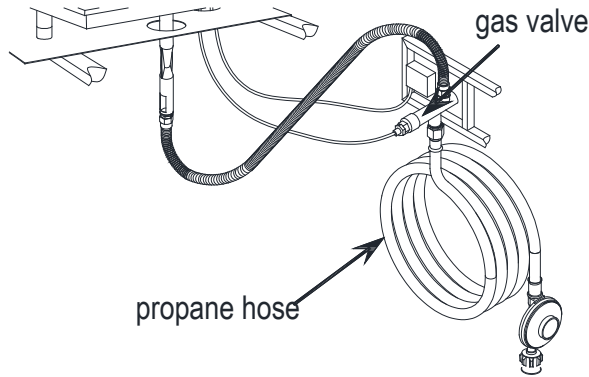

Figure 11
1. Disconnect the propane hose from the gas valve (see Figure 11).